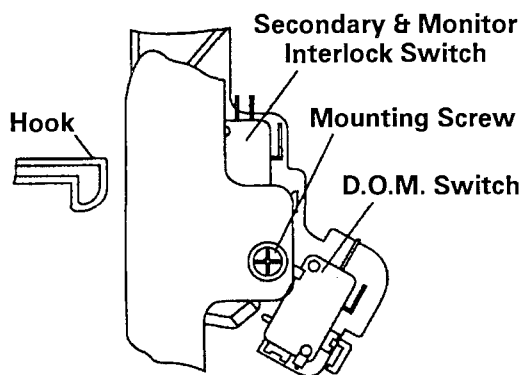

Figure 5
- c. To reduce gap located on part "C". (*Figure 5*)